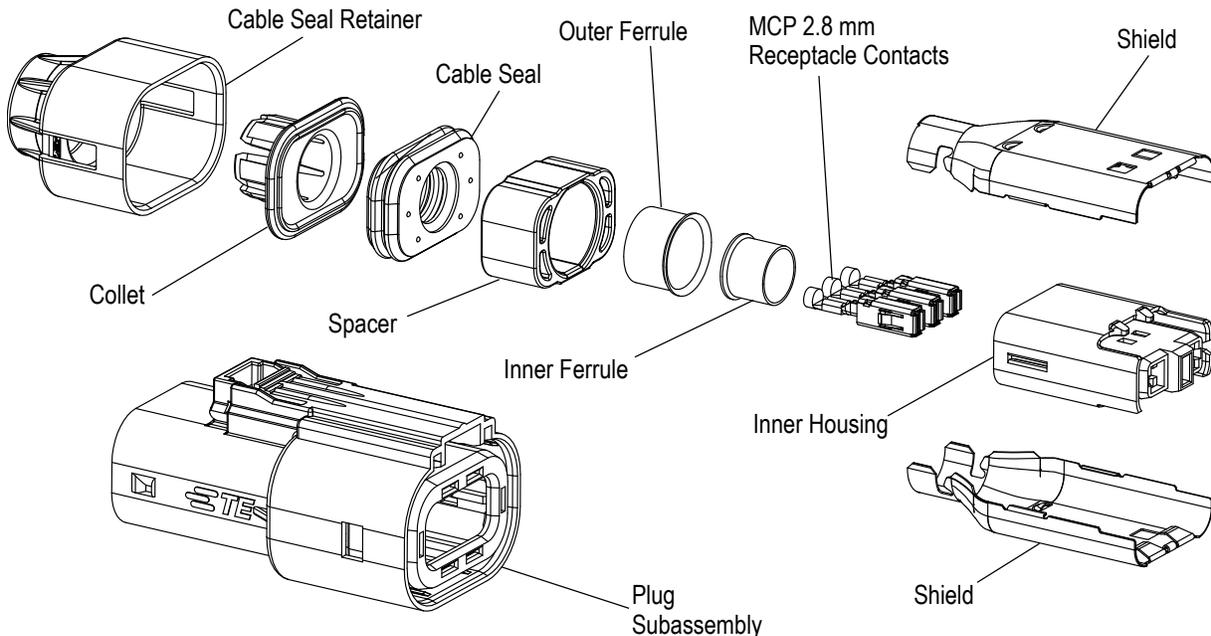

Figure 1
When corresponding with TE Connectivity Personnel, use the terminology provided in this specification to facilitate your inquiries for information. Basic terms and features of this product are provided in Figure 1.
- Updated artwork in Figures 1, 11, 15, 20, and 25; and changed part number in Paragraph 2.5